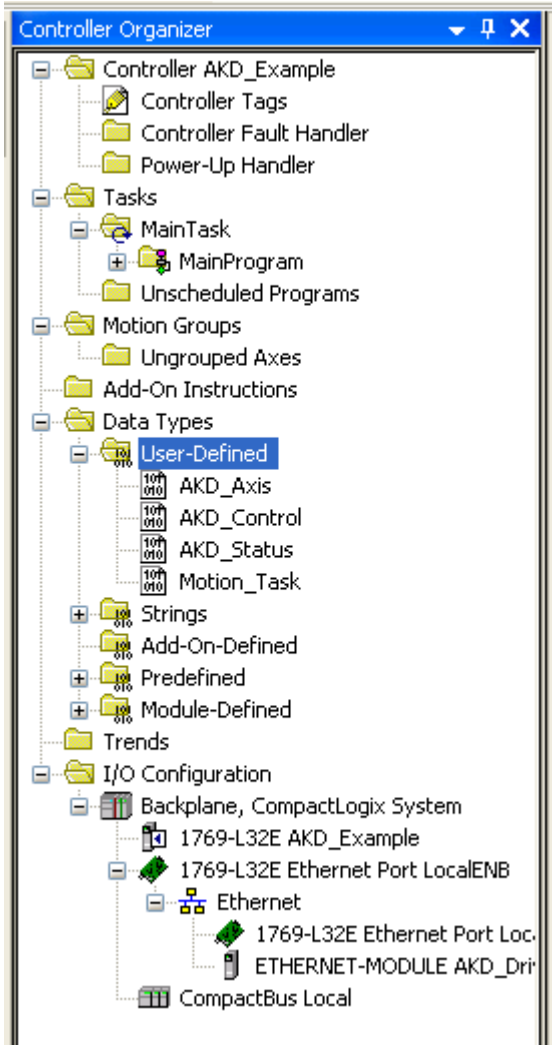

Figure 5-8: Data Types Successfully Imported
6. The data types should now show up under the “Data Types > User-Defined” folder (Figure 5-8: Data Types Successfully Imported)